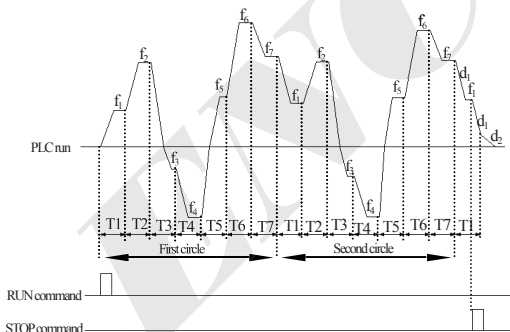

Fig.6-24 PLC consecutive circle mode
**3: consecutive circle.** As shown in Fig.6-24, the inverter start next circle automatically after finishing a circle, until there is stop command.